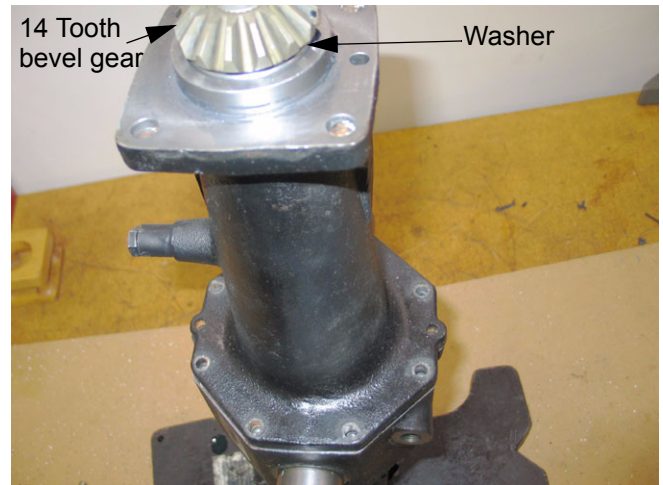

Figure 9.79
- 9.79. Install the washer and 14 tooth bevel gear on the end of the axle shaft. See Figure 9.79.